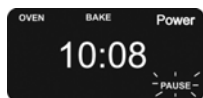

Fig. 18
1. Press the "Stop/Cancel" button to stop the oven while oven is in operation. "PAUSE" will light up on the display window. (Fig. 18)